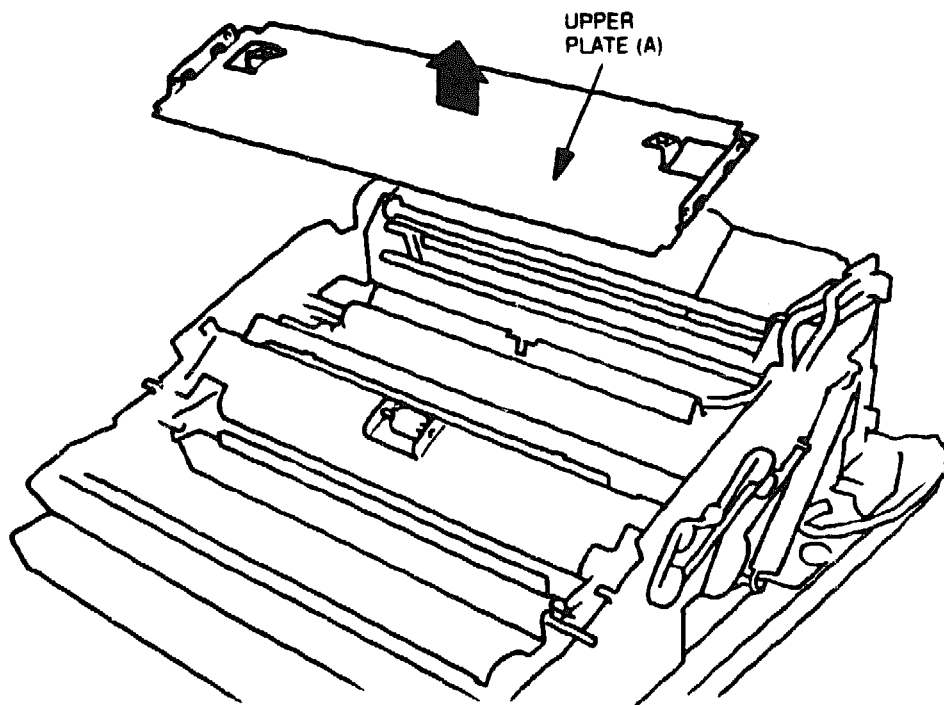

Figure 6-30 Upper Plate (A) Removal
3. Lift the upper plate (A) away from the printer (see Figure 6-30).